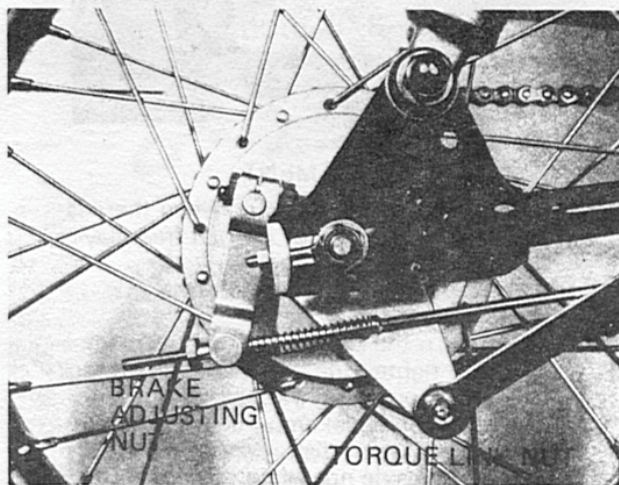

Fig. 44
B. Removing Rear Wheel (Figure 44)